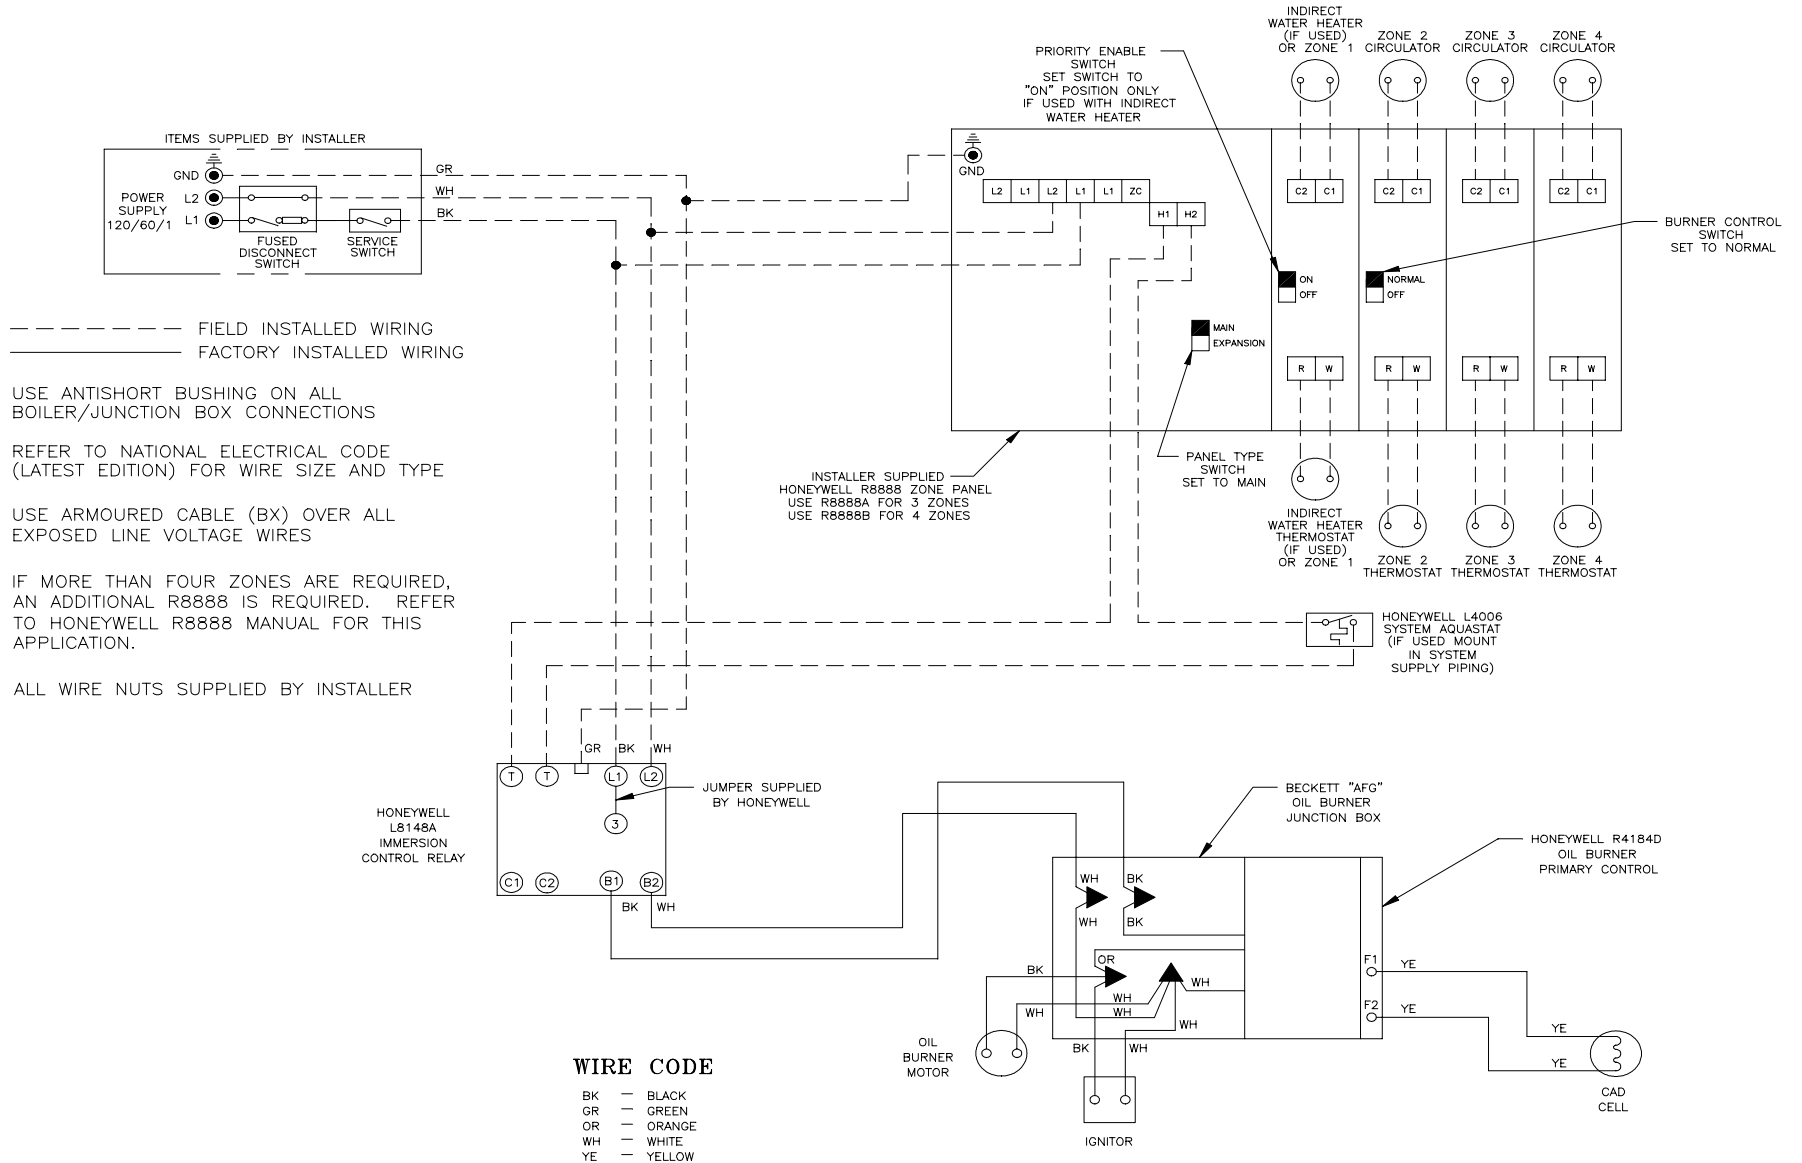

Figure 16: Circulator Zoned Wiring for Honeywell R8888
6. Conventional Circulator Zoned System – Refer to Figure 16 of this manual for the electrical diagram for this type of system. Read, understand and follow all of the instructions provided with the Honeywell R8888 control.